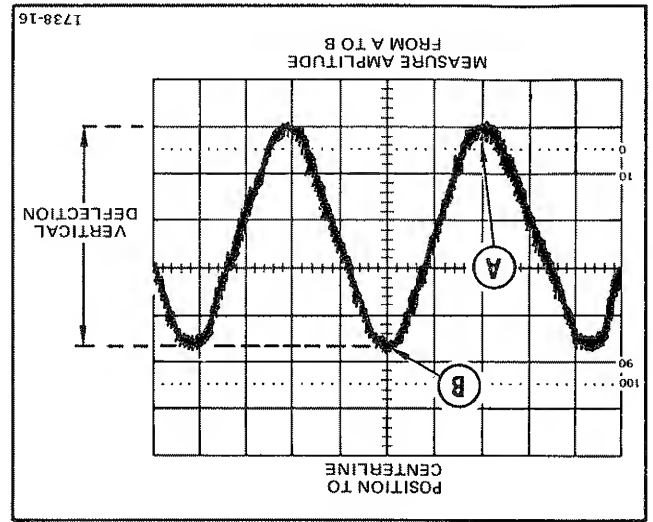

Fig. 4-2. Instantaneous voltage measurement.
- Measure the divisions of vertical deflection between the ground reference line and the point on the waveform at which the level is to be determined (see Figure 4-2).
EXAMPLE: The measured vertical deflection from the reference line is 4.6 divisions (see Figure 4-2), the waveform point is above the reference line, a 10X attenuator probe is being used, and the VOLTS/DIV switch is set to 2.